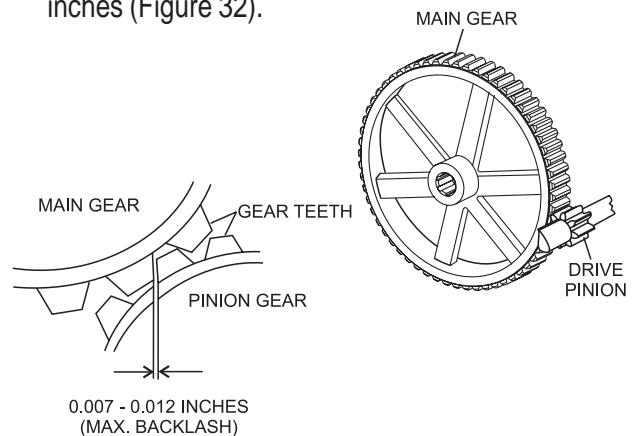

Figure 32. Drive Pinion and Main Gear (Backlash)
3. Using your hand, slightly move (rock) the drive pulley back and forth to determine the amount of backlash. Insert feeler gauge between gears to determine backlash distance. Backlash should range between 0.007- 0.012 inches (Figure 32).